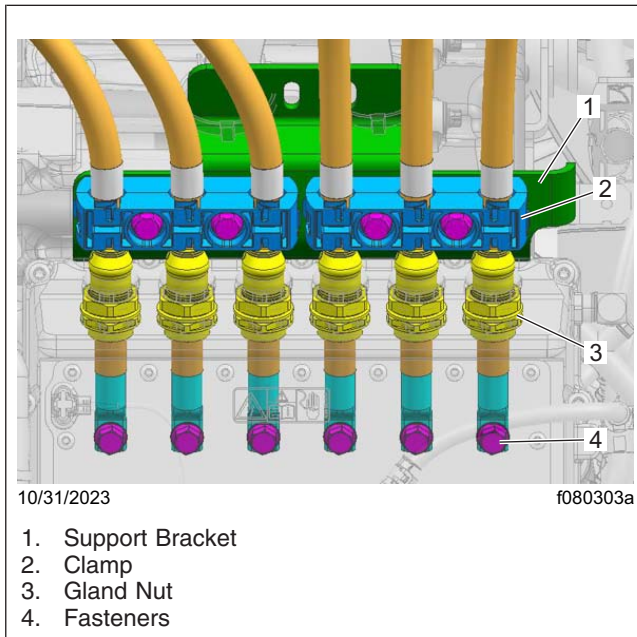
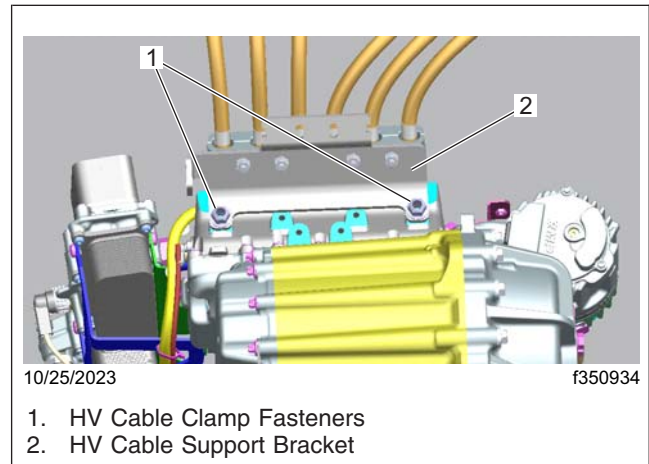

Fig. 16, Axle Side HV Cable Removal
Fig. 17, HV Cable Support Bracket
15. Remove the HV cable support bracket and the mounting fasteners that are mounted to the eCarrier. See Fig. 16 and Fig. 17.
61. Install the support bracket on top of the eCarrier. Then, install the HV cable clamps. See Fig. 16 \(Page 17\).